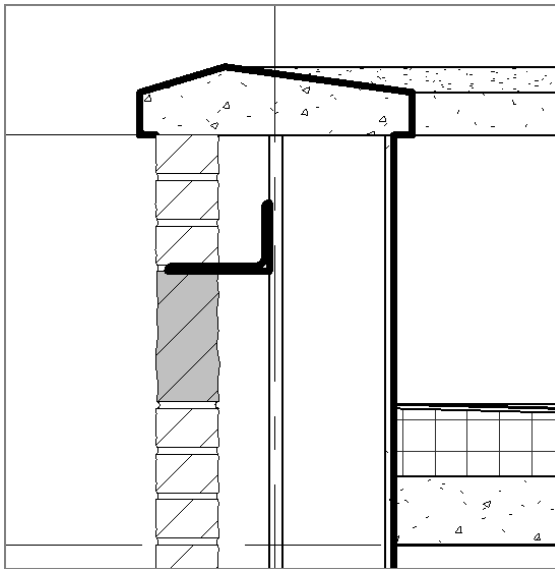

FIGURE 12.34: Placing the L6×4×5/16 (152×102×8) angle
9. Place it into the model, as shown in Figure 12.34.